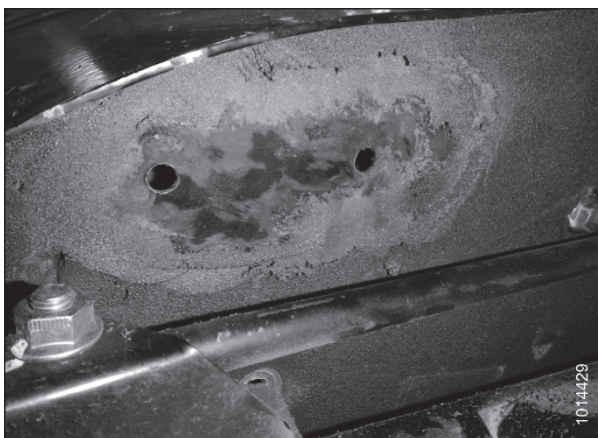

Figure 5: Foam Removed from Windrower Cab
9. With cab support sitting flush, mark a single drill location on bottom layer of the floor by placing a 1/2 in. center punch through cab support (A).
13. Remove foam around holes on the bottom of the cab so the cab limit mount (MD #167544) sits flush against the cab. Refer to Figure 5.
14. Align the cab limit mount (A) (MD #167544) with bolts extending through the bottom of the cab floor. Attach using hardware provided with kit. Torque hardware to 107–118 N·m (79–87 ft·lbf).